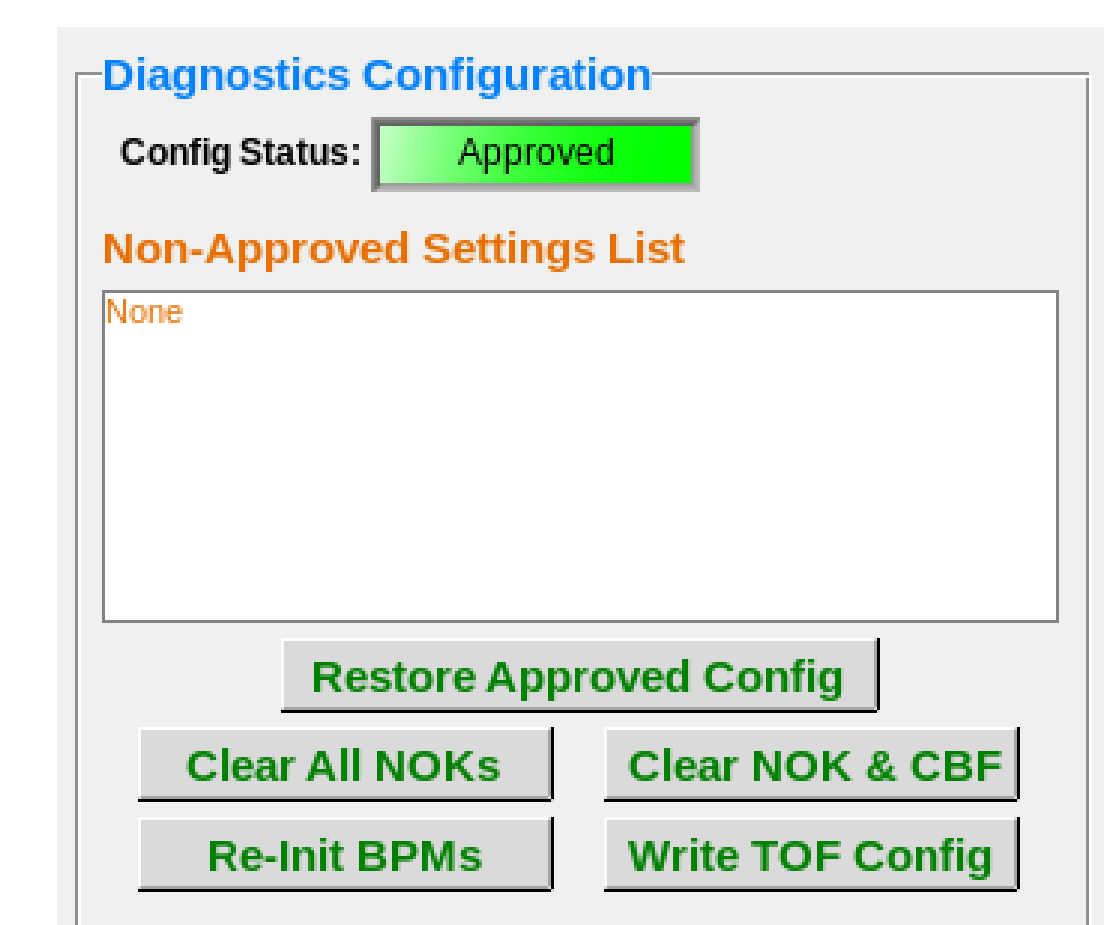

Figure 3: RestoreIOC GUI
- If divergences are found, they are presented to the user, as shown in Fig. 3. Also, specific groups of setpoints can be individually restored on command.